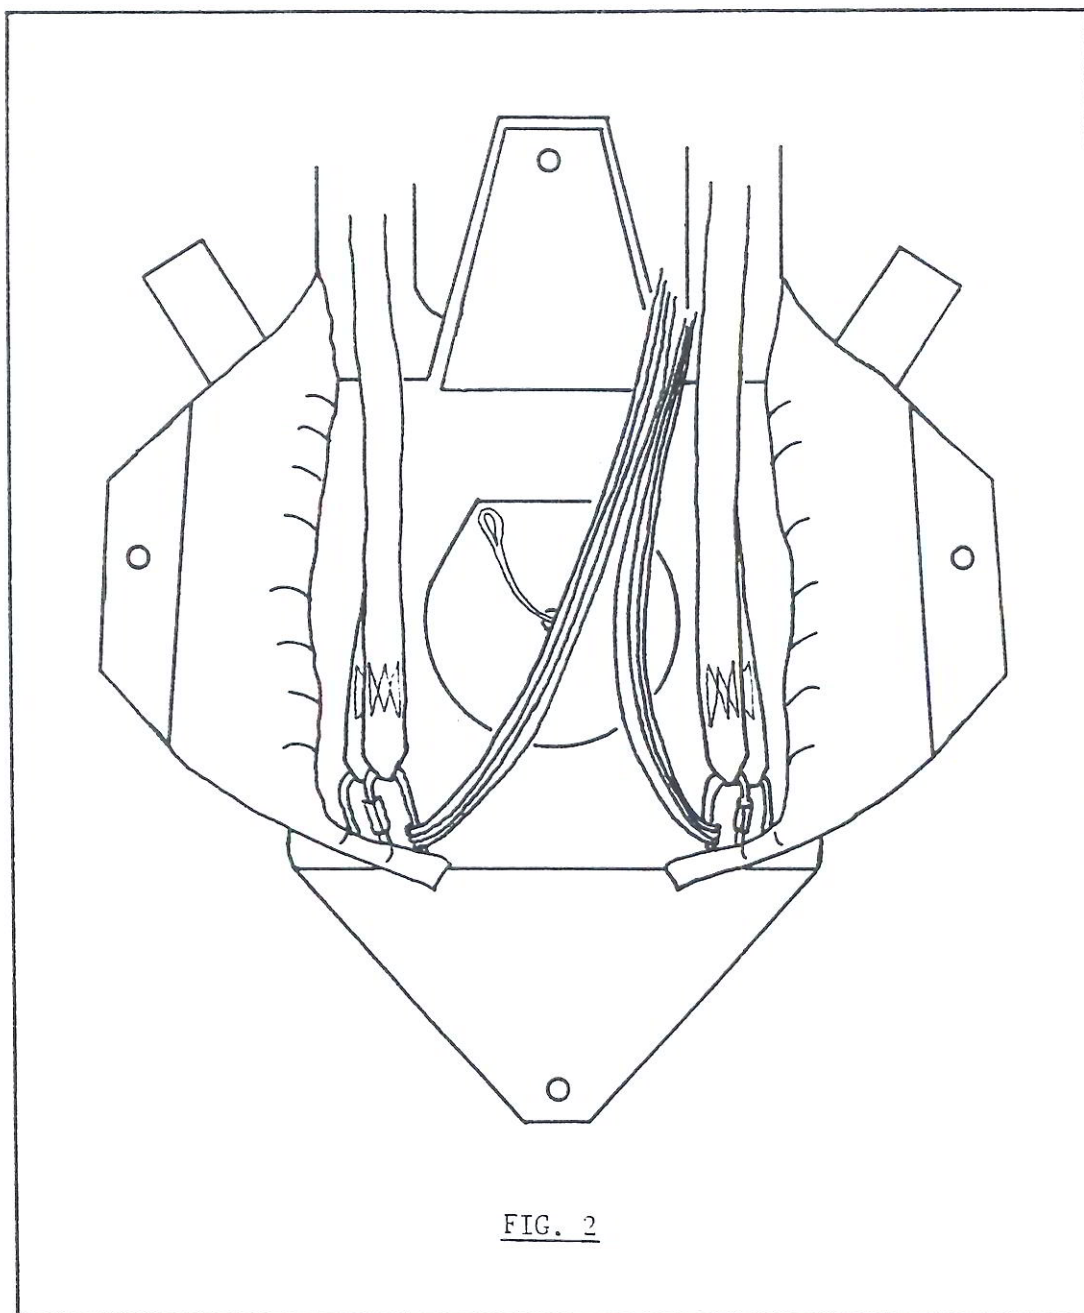
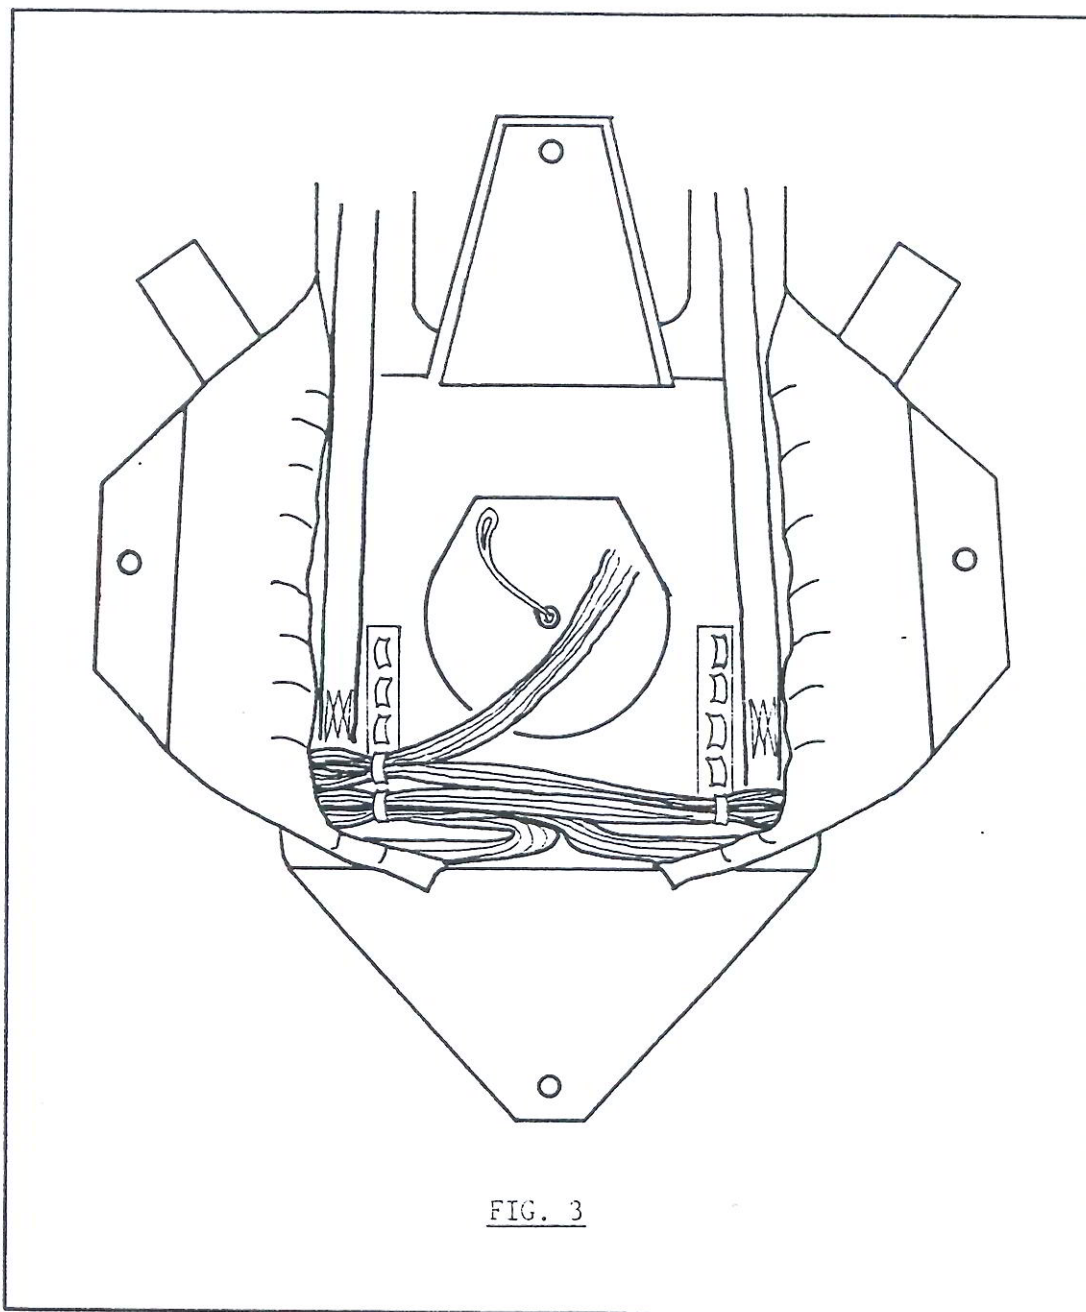

FIG. 2
FIG. 3
- 4a) If the canopy is equipped with a full diaper, all stows of the suspension lines will be made on the diaper. Do this in accordance with the canopy manufacturer's directions. Then lay the risers in the reserve container so that the connector links are in the lower corners (FIG. 2), and go to STEP 5.
- 4b) If the reserve canopy has no diaper, or is equipped with only a partial diaper, the suspension lines must be stowed in the container. Lay the risers in the container so that the connector links are in the lower corners (FIG. 2), and make the first stow of suspension lines in the lower left corner. Continue upward, making the stows the full width of the pack tray. (FIG. 3).